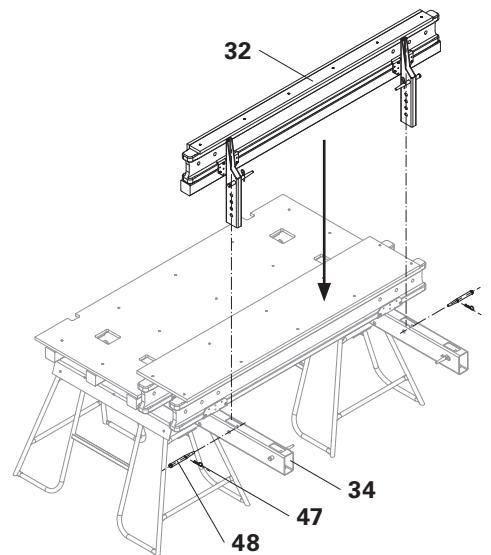
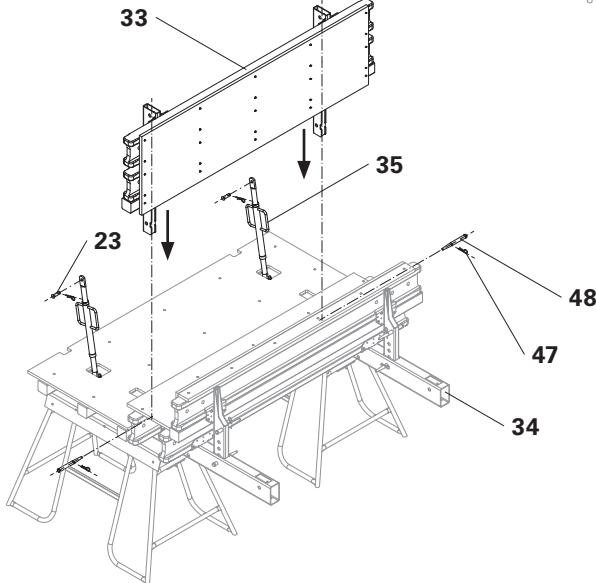

Fig. C1.03
Fig. C1.04
1. Insert the Internal Formwork VD 250/265 (32) in the Platform Beam (34).
2. Install the Internal Formwork VD 250/265 (32) at the designated position using 1x Fitting Pin Ø 21 x 120 (48) each and secure with Cotter Pin 4/1 (47). (Fig. C1.03)
3. Insert the External Formwork VD 250/265 (33) in the Platform Beam (34).
4. Install the External Formwork VD 250/265 (33) at the designated position using 1x Fitting Pin Ø 21 x 120 (48) each and secure with Cotter Pin 4/1 (47).
5. Install Kicker AV 82 (35) on the External Formwork VD 250/265 (33) and the Platform Beam (34) using Bolts 16 x 42 (23) and secure with Cotter Pin 4/1 (47). (Fig. C1.04)
6. Insert the Connector Beam VD (36) in the Platform Beam (34).